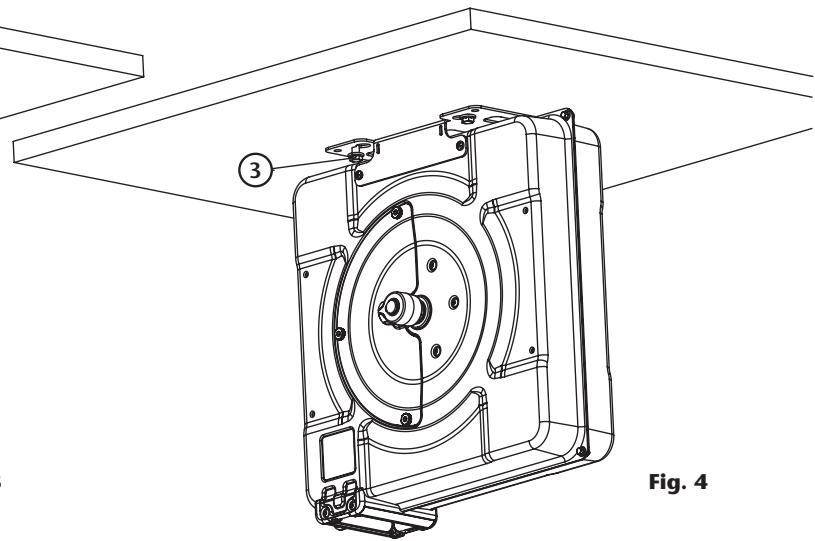

Fig. 4
3. Once the reel is suspended, always holding it securely, proceed to introduce the remaining two bolts (3) (fig. 4), which should be no longer than 10mm to be able to screw them easily.